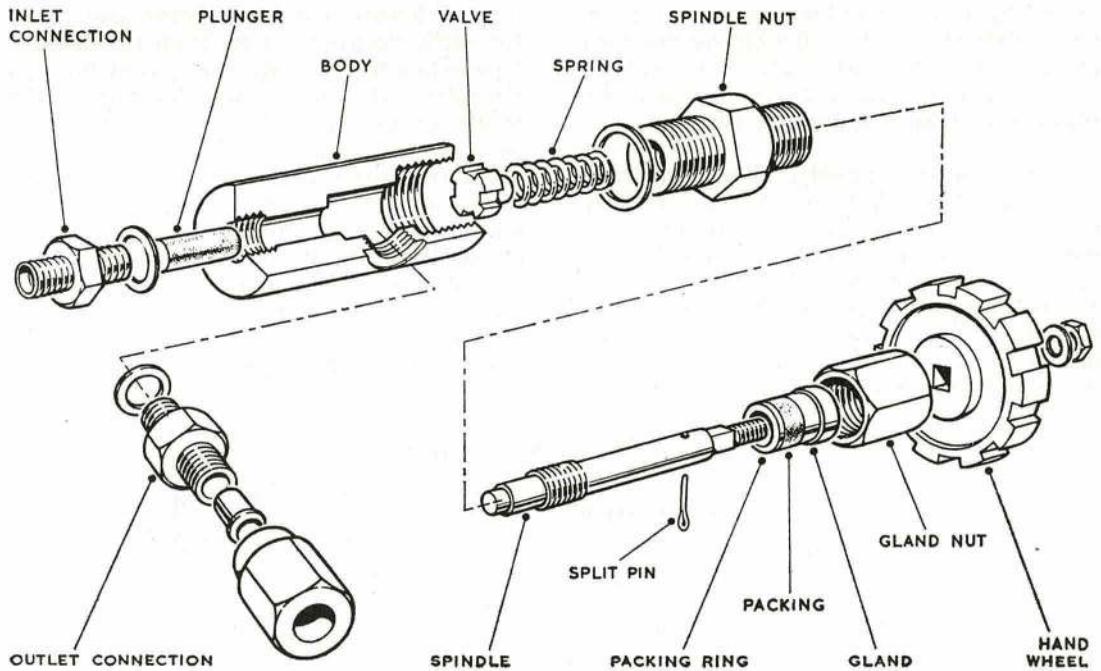

Fig. 7. PRESSURE REGULATOR
25. Pressure Regulator. With the steam pressure at 100 lb per sq. in. (normal operating pressure), approximately 3 gallons of fuel are burnt per hour in the combustion chamber. The fuel pump, however, delivers 35 gallons per hour, and the pressure regulator (Fig. 7) is incorporated to by-pass the excess fuel back to the tank. Thus, if it is desired to lower or raise the steam pressure, the regulator is adjusted to by-pass